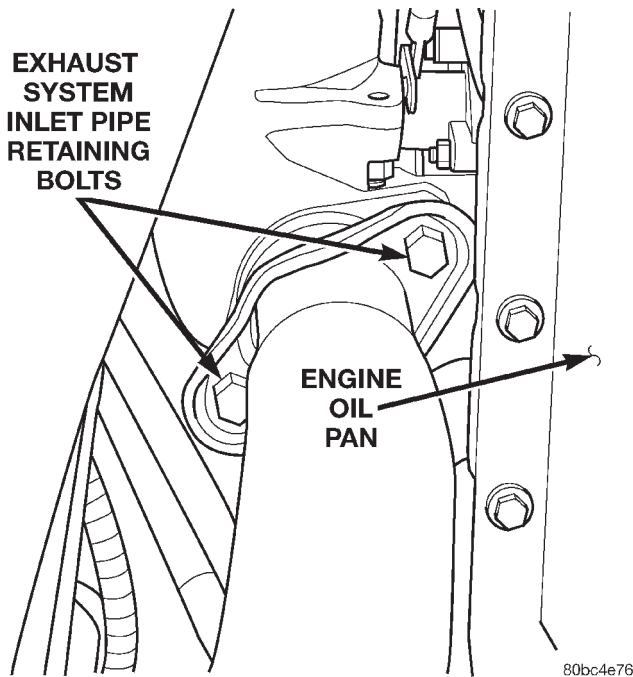

Fig. 27 Exhaust System Inlet Pipe
(26) Install the exhaust system inlet pipe on the turbocharger (Fig. 27). Torque the bolts to 41 N·m (30 ft. lbs.).
(27) Lower the vehicle on the hoist.